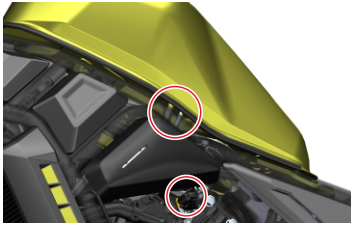
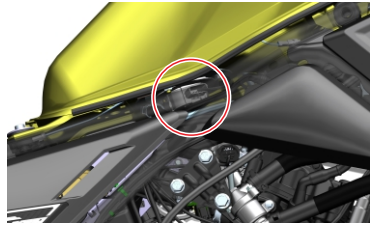

Figure 3
Figure 4
3. Slightly lift up the rear part of the fuel tank and remove the fuel adsorption pipe and water leakage pipe on the left side of the tank (Figure 3); remove the fuel pump connector on the right side of the tank (Figure 4).